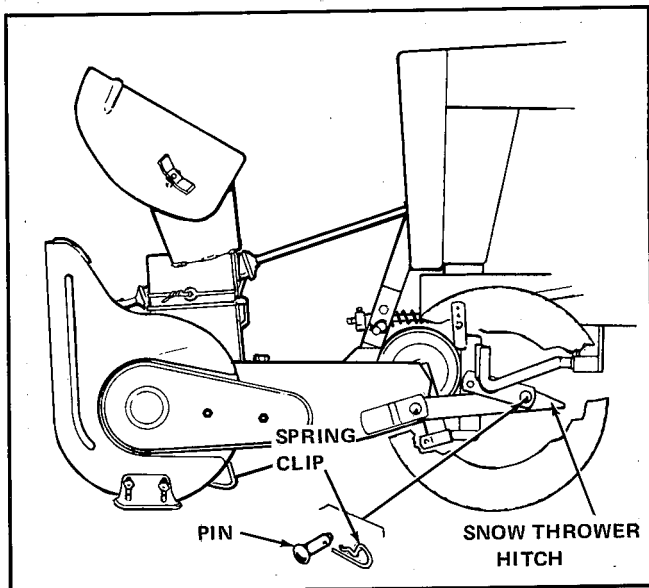

Figure 1. Attach Snow Thrower
1. Position snow thrower hitch (see figure 1) in line with tractor front axle.
2. Attach snow thrower to tractor. The snow thrower hitch must be hooked over the front axle of the tractor. Insert pins from outside through holes of tractor and snow thrower hitches (see figure 1). Install spring clips through holes in ends of pins.
- Remove spring clip and pins to detach snow thrower from tractor (see figure 1). Reinstall pins and spring clips in hitch to prevent loss during storage.